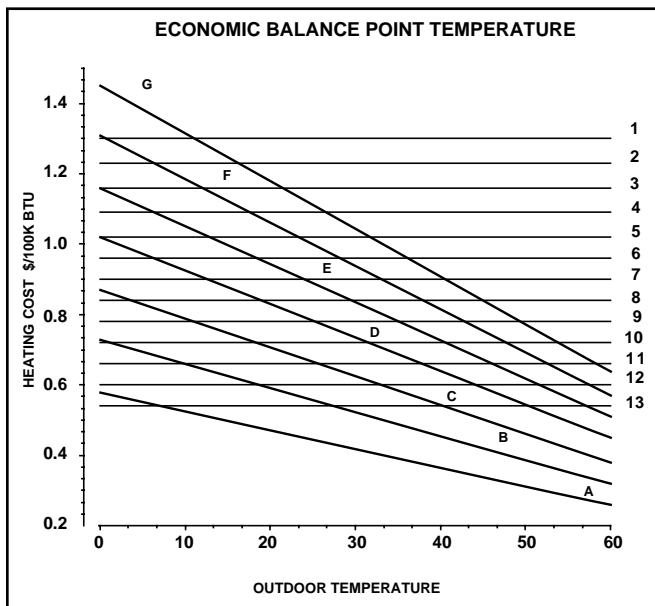

Figure 2. Economic Balance Point Temperature
1. In Table 1, move down the heat pump electric rate column to the electric rate for your area. Then follow that row to the right to either the 10 or 12 SEER column to match your heat pump efficiency. The result letter represent your heat pump's cost of operation curve presented in Figure 2.
2. Next, select your furnace type in Table 1, and move down its fuel cost column to the fuel rate for your area. Then follow that row to the right to either the 70%, 80%, or 90% AFUE column, to match your furnace efficiency. The resulting number represents your furnace's cost of operation curve presented in Figure 2.
3. Still using Figure 2, find the intersection of the two curves identified in the examples above were "E" and "8." Dropping down to the outdoor temperature scale from the intersection of curve "E" and "8," yields a temperature (economic balance point) of 30°F.